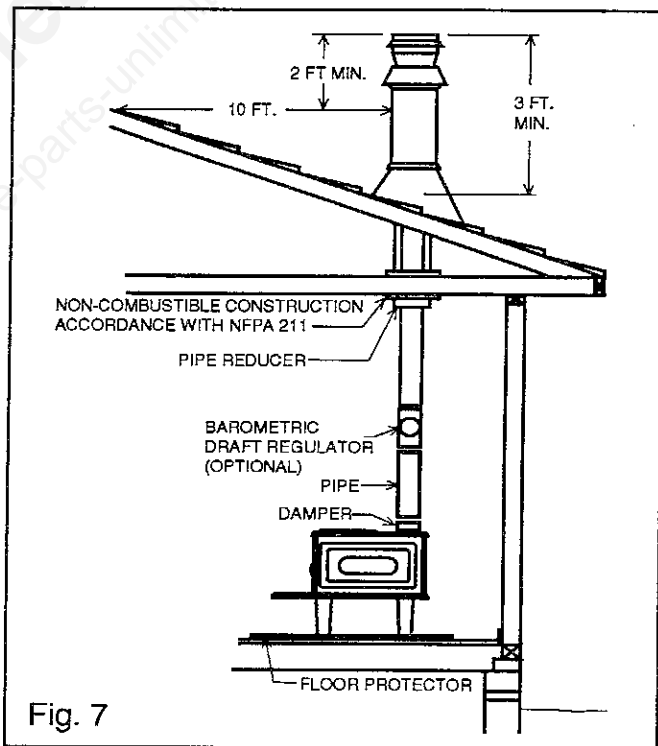

Fig. 7
Carefully follow chimney manufacturer's instructions. Use only a UL Listed Residential Type and Building Heating Appliance Chimney. If your Chimney starts at the ceiling (Fig. 7), you will need enough 6" pipe to reach the ceiling.
The top of the chimney must be at least 3 feet above the roof and be at least 2 feet higher than any point of the roof within 10 feet (Fig. 7).
5. If the fire burns well, but sometimes smokes or burns slowly, it may be caused by the chimney top being lower than another part of the house or a nearby tree. The wind blowing over a house or tree, falls on top of the chimney like water over a dam, beating down the smoke. The top of the chimney should be at least 3 feet above the roof and be at least 2 feet higher than any point of the roof within 10 feet (Fig. 7).